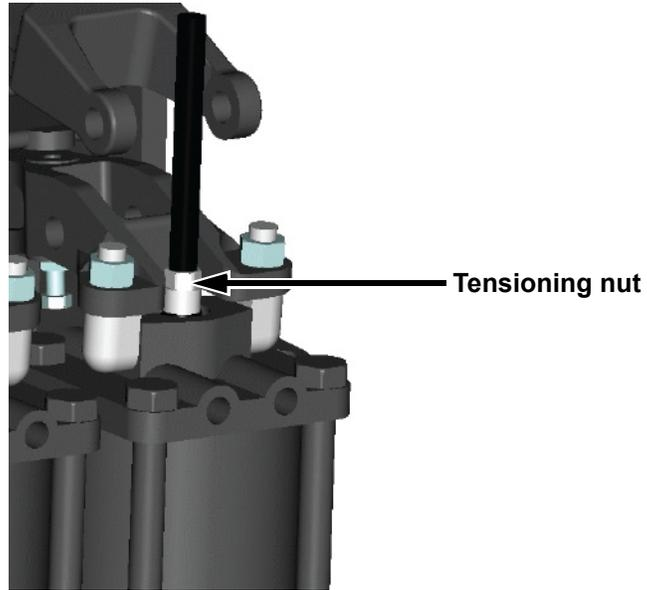

Figure 2: Rod Tensioning Nut
7. Tighten the tensioning nut against the base of the piston rod See Figure 2 on page 3.